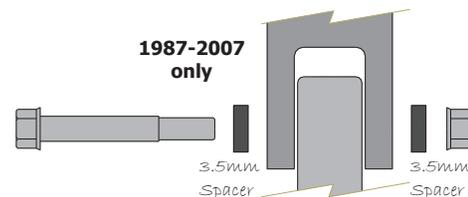

figure 3
- **On 1987-2007 models ONLY**, install the supplied 3.5mm thick spacers - one on each side of the shock clevis (see figure 3). Do not install these spacers on 2008-2010 models.